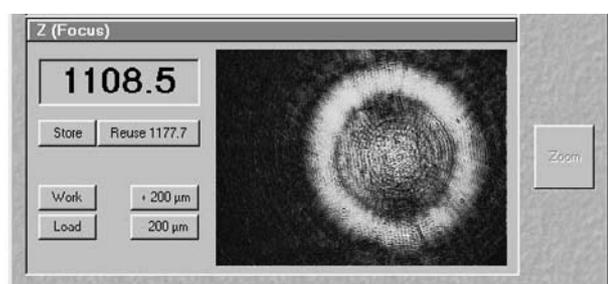

**Fig. 5-168** Camera image far away from the lower cover slip surface
- The camera window shows interference fringes caused by the laser light (Fig. 5-168).